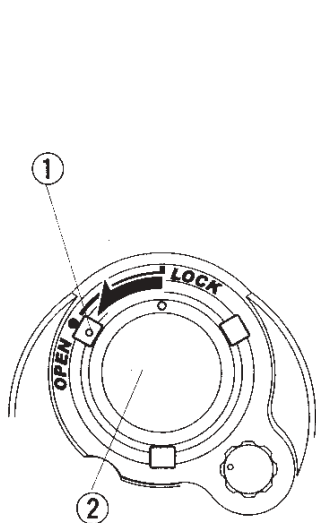

Figure 1
1. To remove the battery compartment cover, turn part ① counterclockwise to the OPEN position and pull the cover ② straight out. (Figure 1)